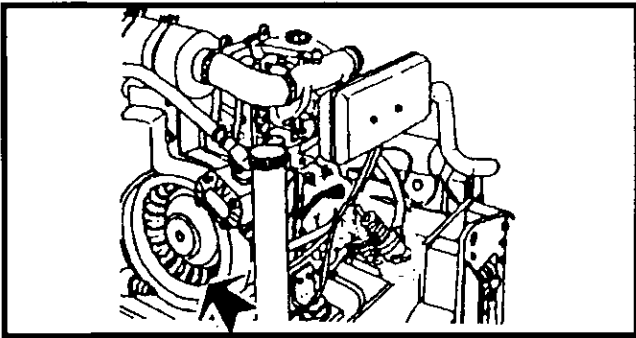

Figure 5-15 Engine Cooling Fins/Fan
3. Lubricate the drum offset guides after each washdown, Refer Figure 5-15.
If the machine has suffered leaks of oil or fuel, dirt will tend to adhere to the cooling fins of air cooled engines (Figure 5-15). This accumulation of dirt will reduce the cooling efficiency. Therefore, any leaks of oil or fuel should be immediately repaired and cooling surfaces given a through cleaning.